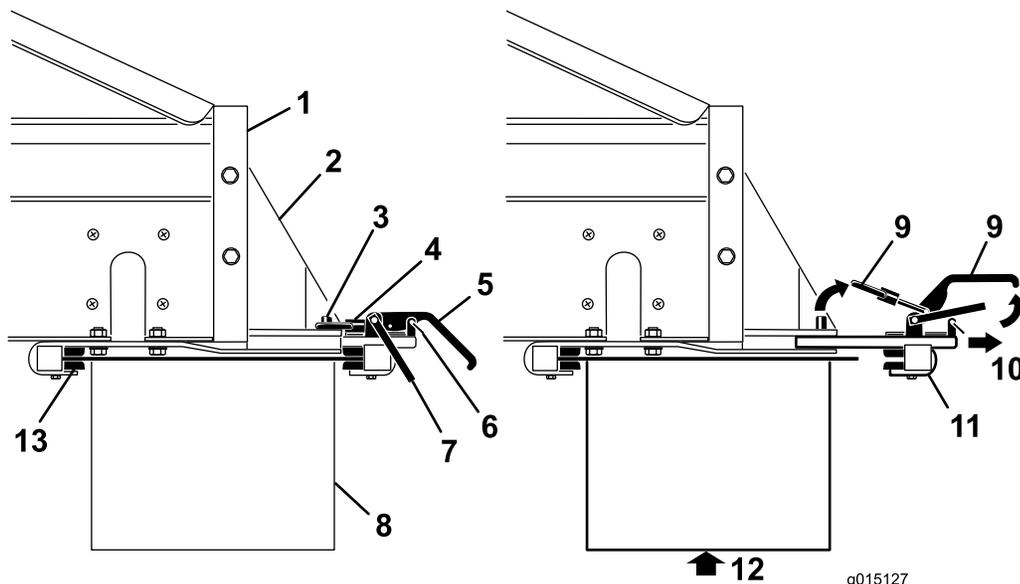

Figure 49
3. Remove the safety latch clips from the clamp handles (Figure 49).
4. Lift the safety latch, then lift the option attachment clamp handles, and release the lock rings from the lock pins (Figure 49).
5. Slide the rear option attachment clamp assembly out of the quick-attach slots (Figure 49).
6. With assistance, insert the front edge of the cross conveyor/swivel up and under the rear of the machine into the front clamps on the brackets (Figure 49).
7. While supporting the cross conveyor/swivel, slide the rear option attachment clamp assembly back into the slots in the brackets, and over the rear edge (Figure 49).
9. Install the safety latch clips to the clamp handles (Figure 49).